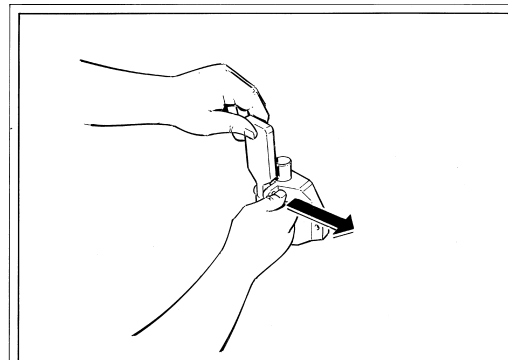
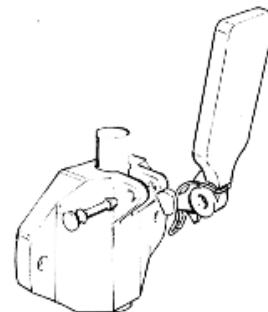

Fig. 48
Fig. 49
- Dismantle the tap from the flange by removing the fixing pin (Fig. 48) so that you can remove the lever and its spring and release the piston from its housing (Fig. 49).